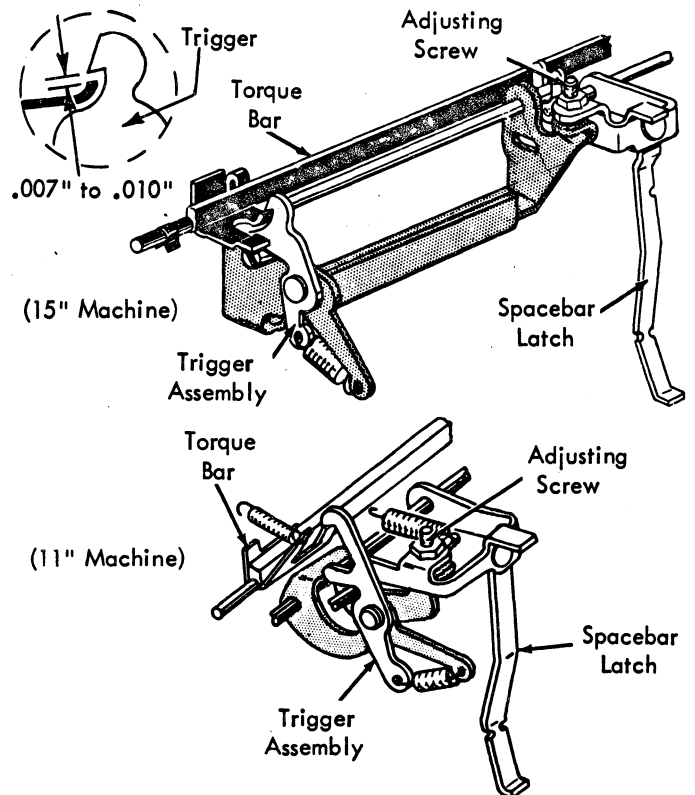

FIGURE 185A. Spacebar Latch Lever Screw
2. **Spacebar Latch Lever Screw** - Adjust the screw so that .007" to .010" clearance exists between the escapement trigger and the escapement torque bar (Fig. 185A). Disconnect the escapement trip link before making this adjustment.